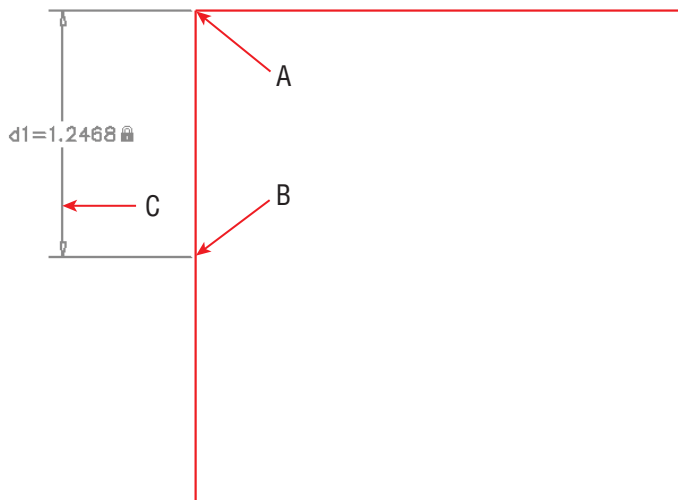

FIGURE 12.5 Creating a vertical linear dimensional constraint
3. Select the Parametric tab on the ribbon. Select the Linear constraint tool in the Dimensional panel, and click *constraint points* A and B, as shown in Figure 12.5. Constraint points highlight in red on screen when you move the cursor near them. Click point C to locate the dimension line. Press Enter to accept the default dimension text. This dimensional constraint is automatically given the variable name d1.